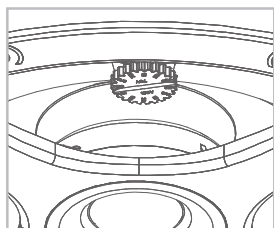

Figure 7:
7. Set the transformer tap selector. Set the volume of each speaker until the system is completely installed (see Figure 7).